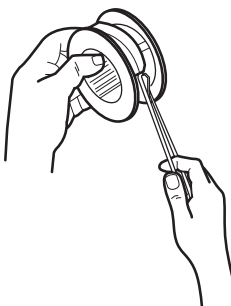

Fig. 34c
9. Cut a new 6 m long trimming line with a diameter of 2 mm. Form a loop at the middle of the line and insert this loop into the hook on the spool. (See Fig. 34c)